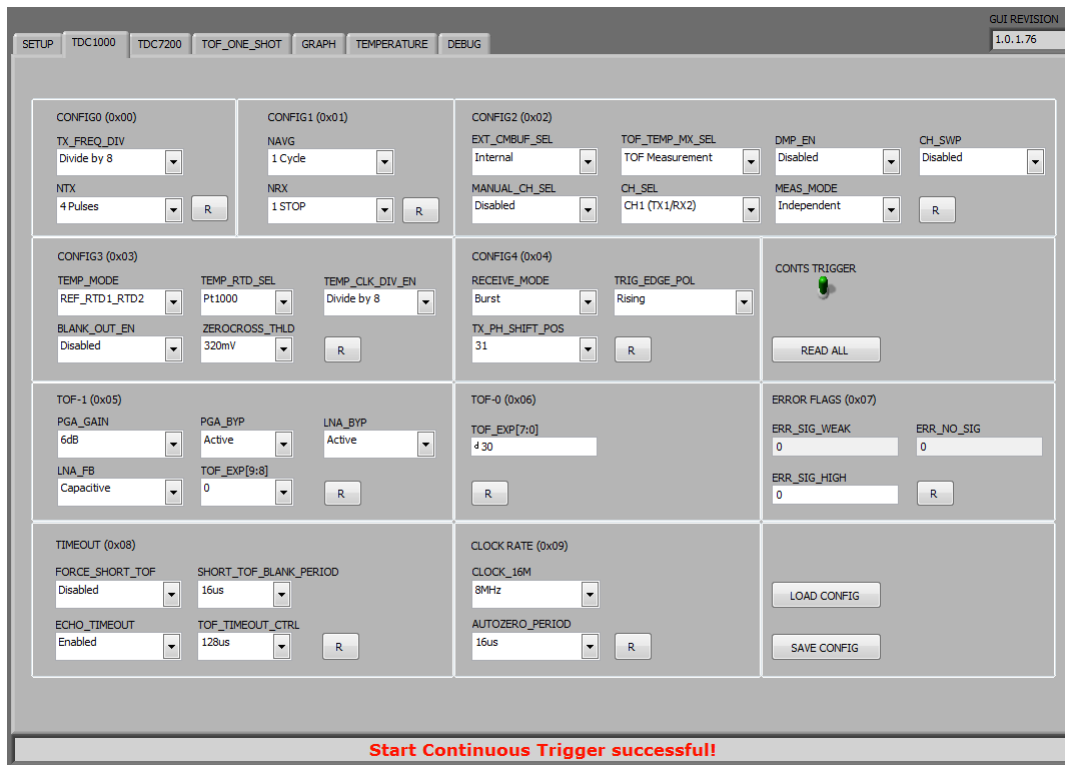

Figure 5-4. EVM GUI - TDC1000 Tap
- (a) Enable constant trigger on the TDC1000 Tap on the GUI. The message Start Continuous Trigger successful!! should appear at the bottom of the GUI. Refer to Figure 5-4.